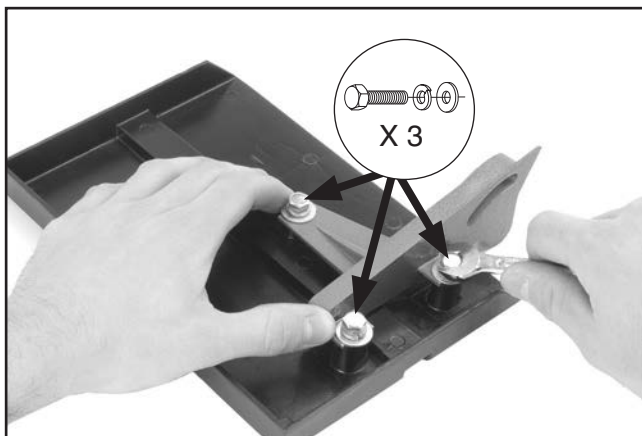

Figure 9. Attaching table support to disc table.
3. Lay disc sanding table upside down and align table support with holes in table (see **Figure 9**).
4. Use (3) M6-1 x 14 hex bolts, (3) 6mm lock washers, and (3) 6mm flat washers to attach table support to table (see **Figure 9**).